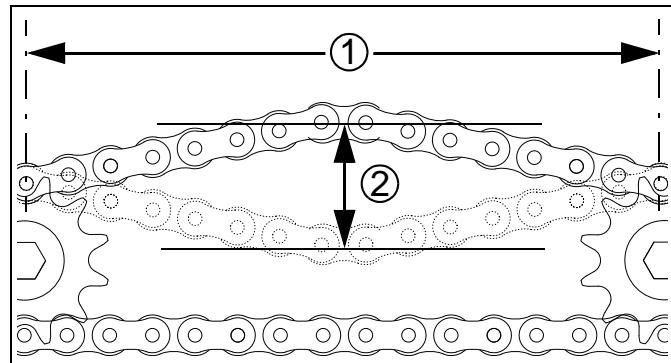

Figure 47
*Refer to Figure 47, which, for clarity, greatly exaggerates slack, and omits the idlers.*
1. Measure the span ① for allowable slack: